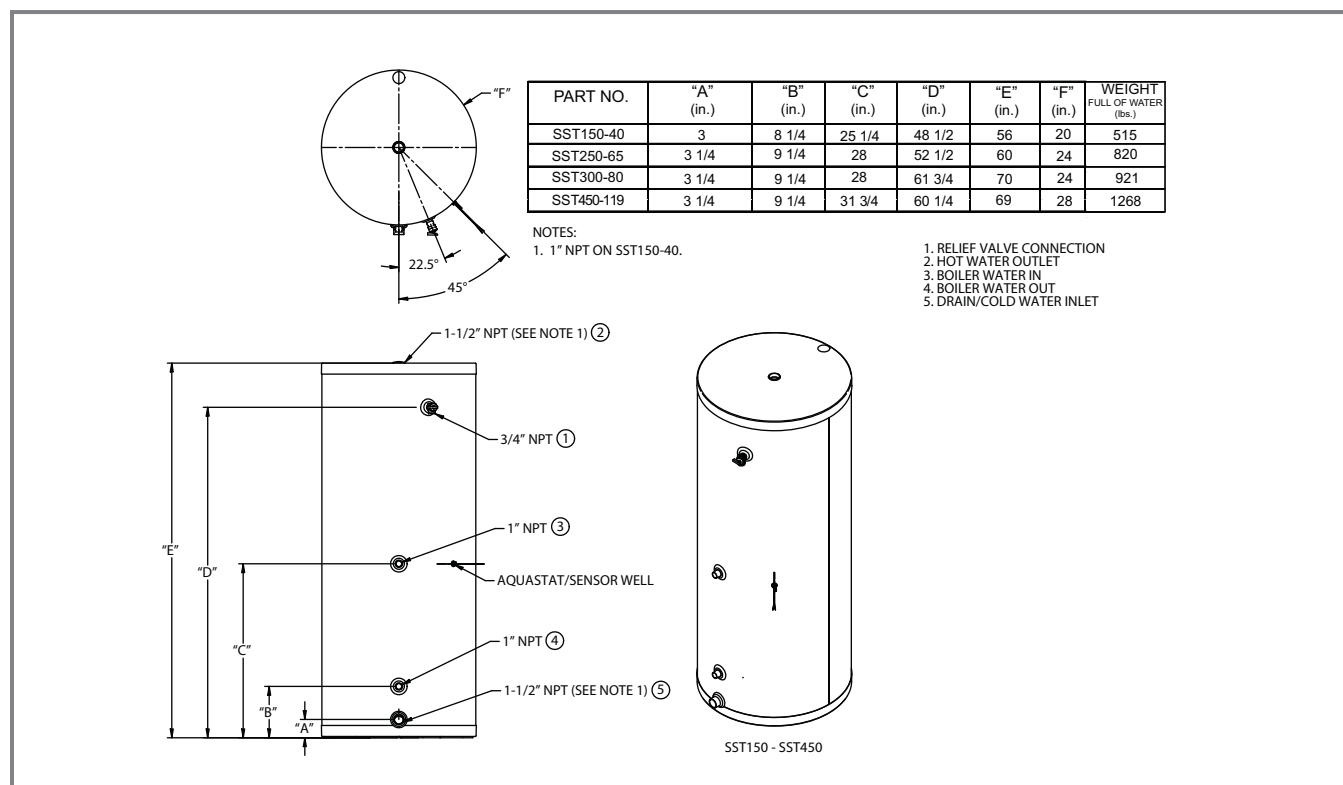

Figure 1-1
The SST series indirect water heater (FIG. 1-1) is designed to generate domestic hot water in conjunction with a hot water boiler using forced boiler water circulation. This indirect water heater consists of a 316L Stainless Steel tank in which a smooth 316L stainless steel coil is located (Table 1A). Boiler water is pumped through the coil and heats the water in the tank. This tank is not intended for use in pool heating applications or for heating any fluid other than water. It is also not intended for use in gravity hot water heating systems.
3. Figure 1-1 on page 6 shows the weights of all the tanks filled with water. Make sure that the location chosen for the tank is capable of supporting it.